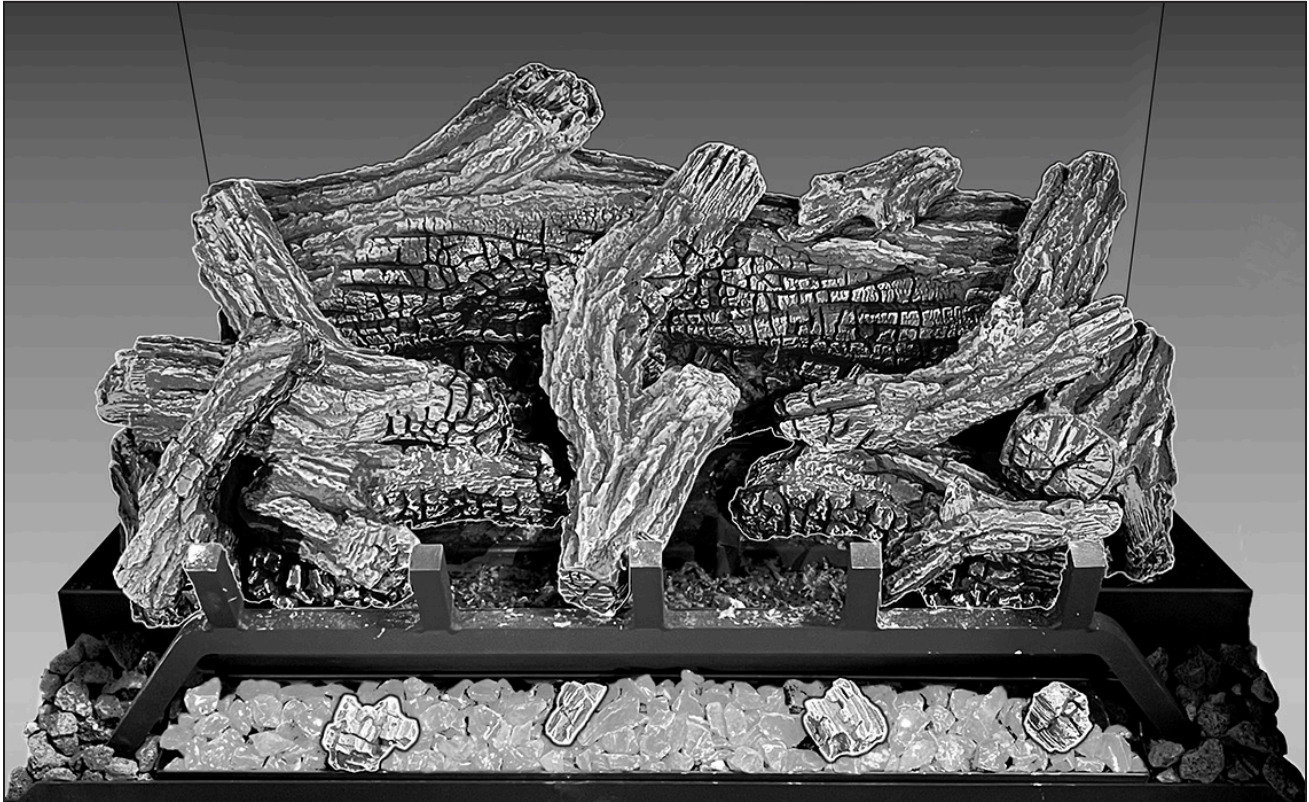
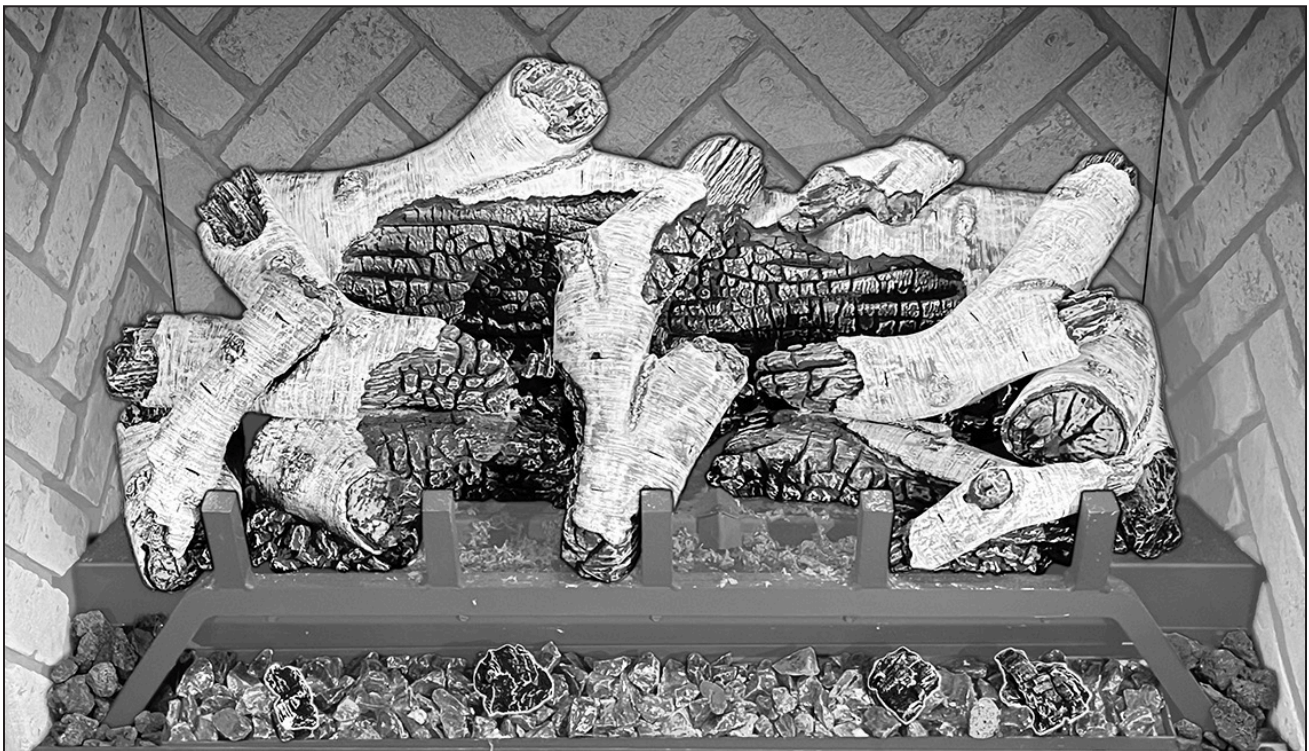

FIGURE 5 BH38-500 Completed Install
FIGURE 6 BH38-B501 Completed Install
9. Place (4) charred pieces on top of the ember bed. You may place the pieces at your discretion. See **FIGURE 5** and **FIGURE 6**.